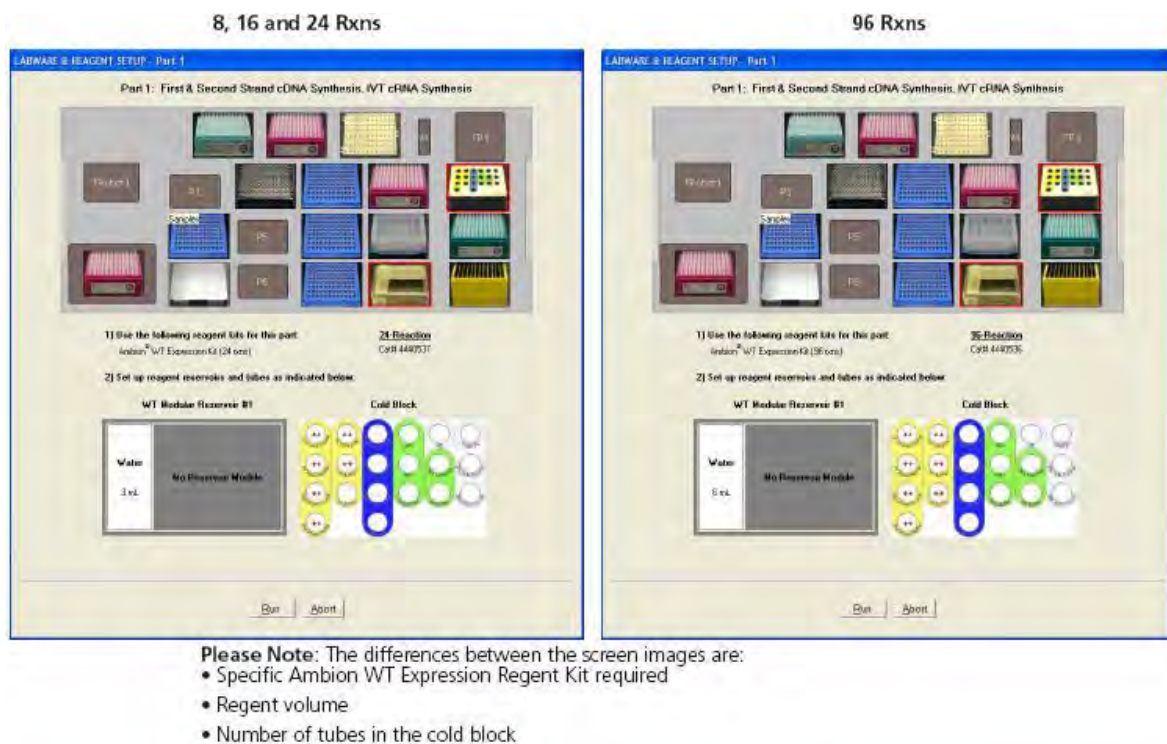
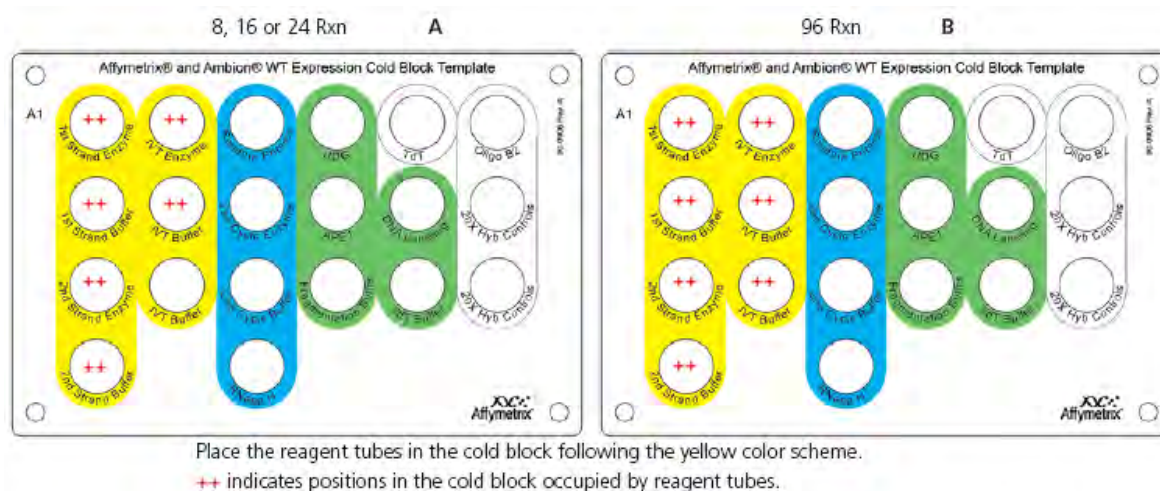

Figure 17 Part 1 labware & reagent setup.
Figure 18 Reagent cold block setup for 8, 16, 24, and 96 reactions for Part 1.
The **Labware & Reagent Setup** window appears (Figure 17).
1. After clicking **Run** in the previous task, the **Labware & Reagent Setup** window appears (Figure 17).
2. Set up the reagent cold block as shown in Figure 17 or Figure 18 A or B.
- b. Uncap the First-Strand, Second-Strand, and IVT reagent tubes and insert them into the prechilled cold block following the yellow color code of the template Figure 18.
- Figure 17—Illustration of the deck layout
4. When the deck is ready, click **Run** in the **Labware & Reagent Setup** window (Figure 17).